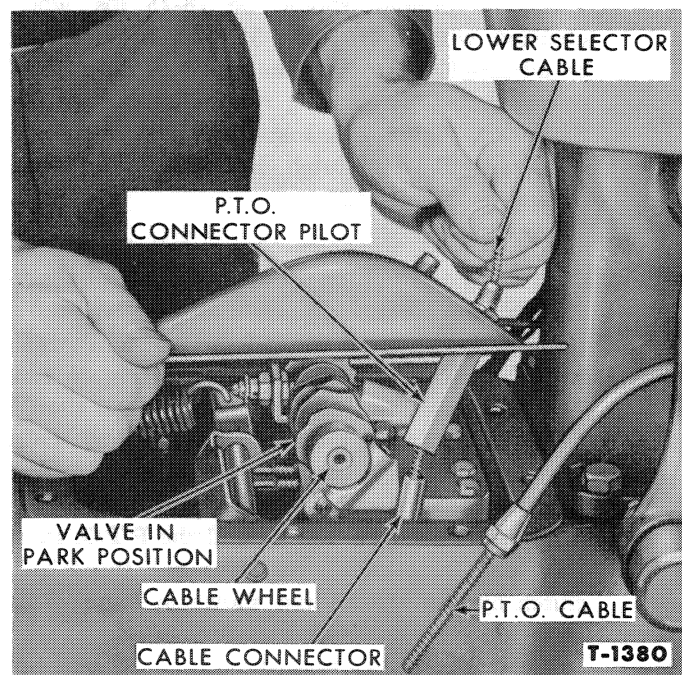

Figure 135—Transmission Cover Installation
1. Check to be certain that the control valve is in the (P) park position with all six spool-type valves in the valve lower body in the "OUT" position.
2. Thread the lower selector cable into the P.T.O. cable connector and guide the connector into the pilot while the cover is being lowered into place, as shown in Figure 135. When the cover is in position, move the cable up and down to be sure that the connector is moving freely within the pilot and install the cover bolts, but do not tighten them.